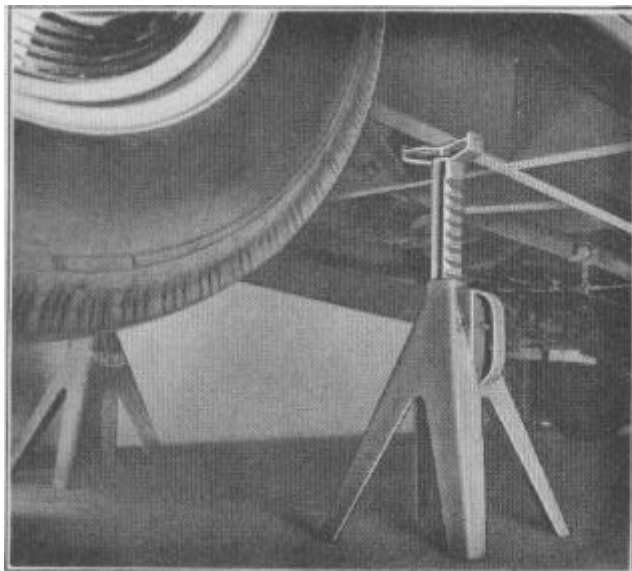

FIGURE 3
1. Jack up car, place car stands under body frame just forward of rear springs, See Figure 3.